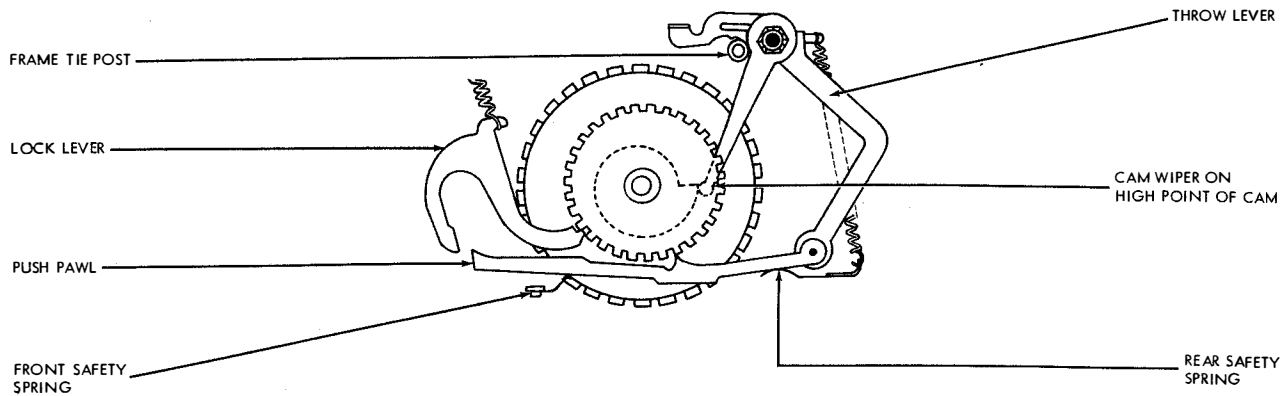

Figure 2-25. Push Pawl in Retracted Position
(3) TYPEWHEELS.—All of the typewheels, except the ratchet-driven minute wheel, are advanced by push pawls attached to throw levers. This action is progressive from the minute wheel to the hour wheel as follows. The minute wheel is driven by the ratchet as described in paragraph (2) above. A cam wiper attached to the hour throw lever assembly rides on a cam which is integral with the typewheel drive shaft. As the wiper and throw lever are moved by the cam, the push pawl is moved back and drops behind the next tooth on the hour typewheel sprocket (see figure 2-25).